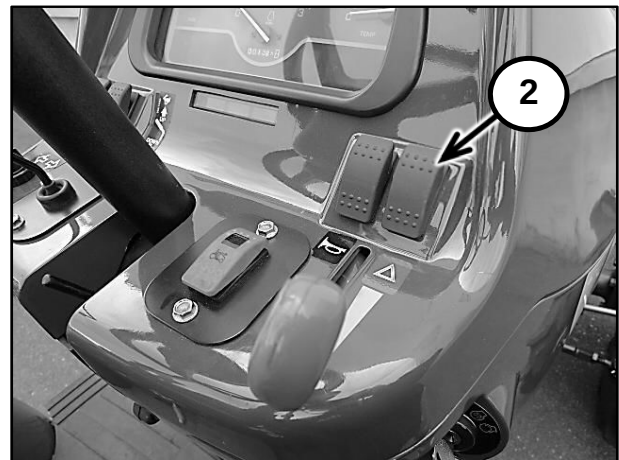

Figure 2-18
The flasher warning lights (1) in Figure 2-17, are activated by placing rocker switch (2) in Figure 2-18, in the front position.